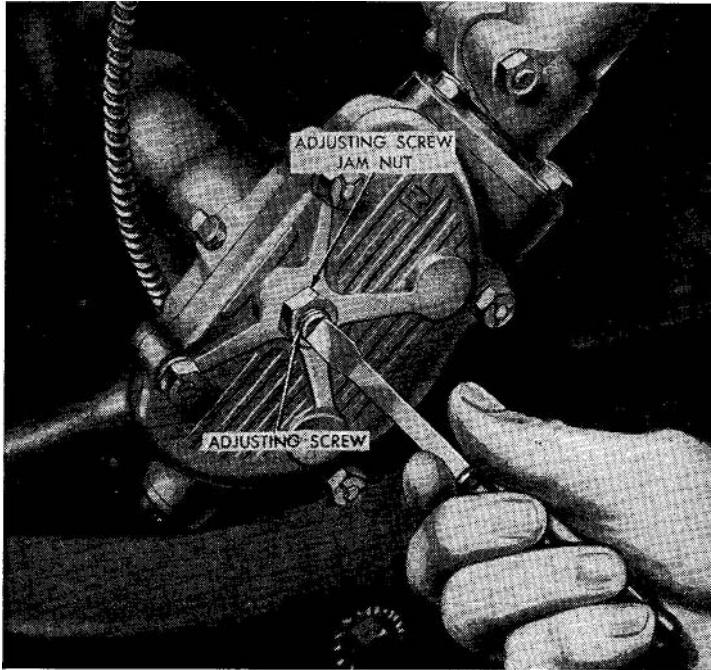

Figure 155. Pitman arm shaft adjustment.
- (3) Loosen the Pitman shaft adjusting screw jam nut (*fig. 155*) and tighten the Pitman shaft adjusting screw. Back off on the adjusting screw one-half turn and tighten the jam nut.
- (4) Turn the steering wheel one-half turn to the right and then back to the left. As the mark on the wheel passes the mark on the windshield, a slight drag should be felt. If no drag is felt, repeat the adjustment ( 3) above), backing off the adjusting screw less than one-half turn.
- (5) Connect the drag link assembly to the Pitman arm (par. 227b (1) ).